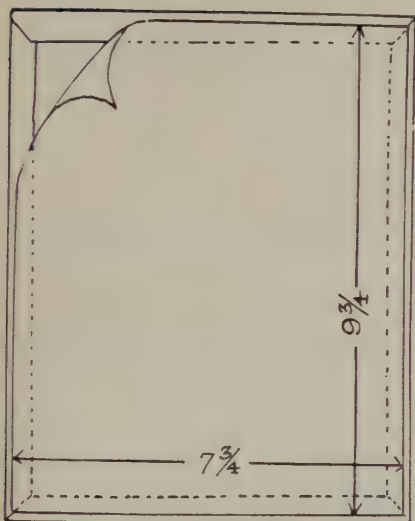

FIG. 85—DIAGRAM OF LINING PAPER FOR BACK OF CALENDAR BOARD
6. Glue-off and mount lining paper to reverse side—position carefully $\frac{1}{8}"$ from each edge—press. (Fig. 85.)